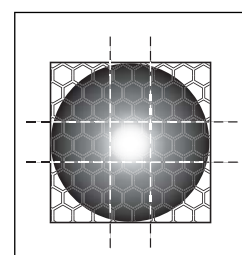

Fig 23 Detector aligned
8. At the end of the panning and tilting alignment procedures the centre of the beam should be projected onto the centre of the reflector, as shown in **Fig 23**. The LEDs will not be illuminated.